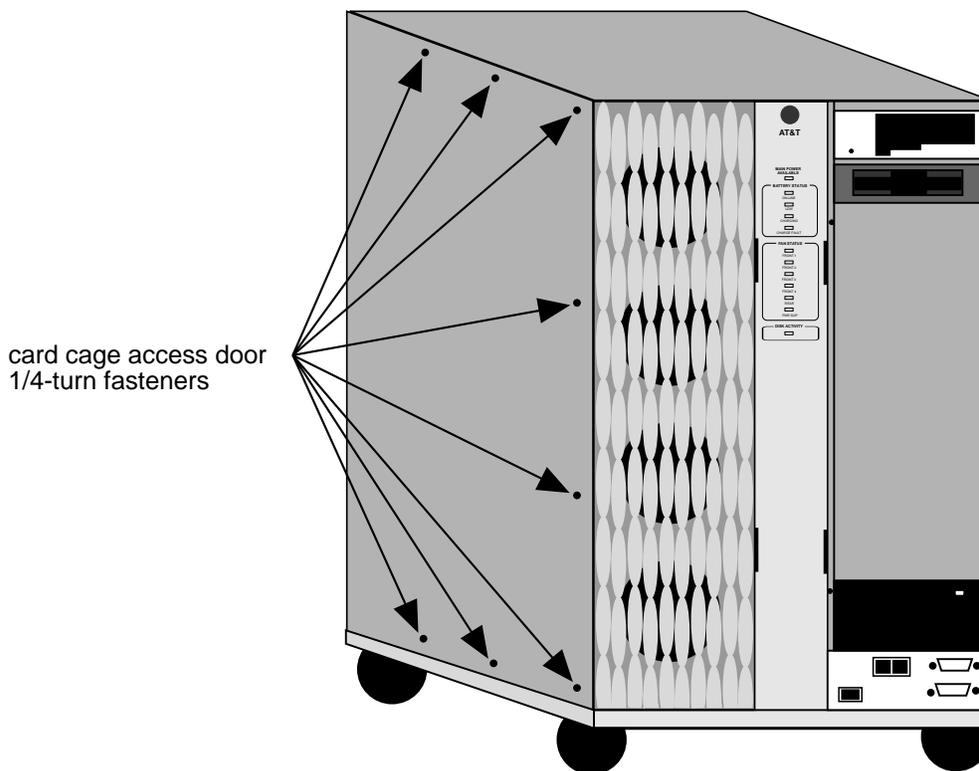

Figure 4-9. Fasteners Around the Card Cage Access Door
2. Loosen the eight 1/4-turn fasteners around the card cage access door (Figure 4-9).
2. Tighten the eight 1/4-turn fasteners around the card cage access door (Figure 4-9).